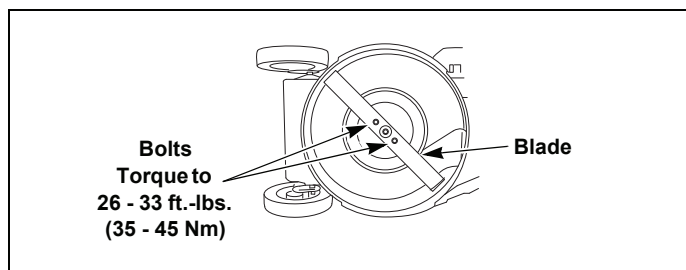

Fig. 5-4
4. Torque the blade bolts to 26.0 33.0 ft.-lbs (35 - 45 Nm). Fig. 5-4
4. Attach blade using the blade mounting bolts and torque between 26 - 33 ft.-lbs (35 - 45 Nm). Fig. 5-4